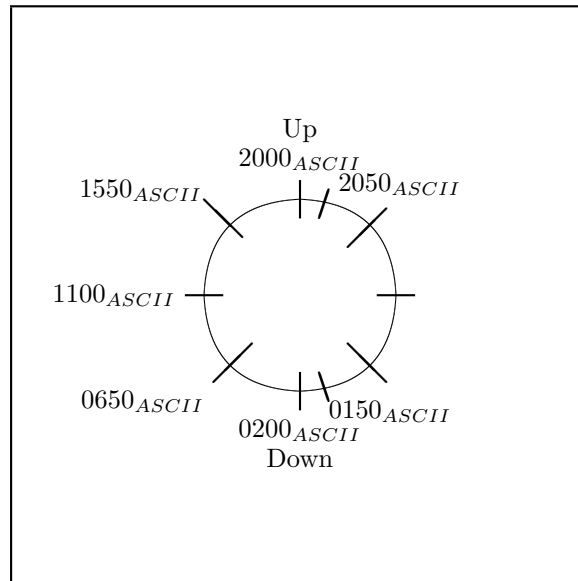

Figure 5: Cohu iDome Tilt Readout Positions, ASCII values[`intro:cohutiltreadoutshei`]
- 2.3.1. In Figure 5, page 26 are the ASCII values that apply as a camera is tilted.